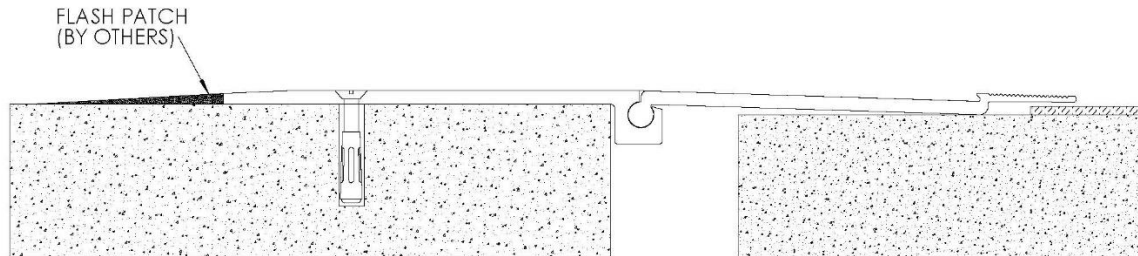

FIGURE 4
- Flash patch (by others) on anchored side and feather back 3” to 6” to assure a smooth transition. **See Figure 4**